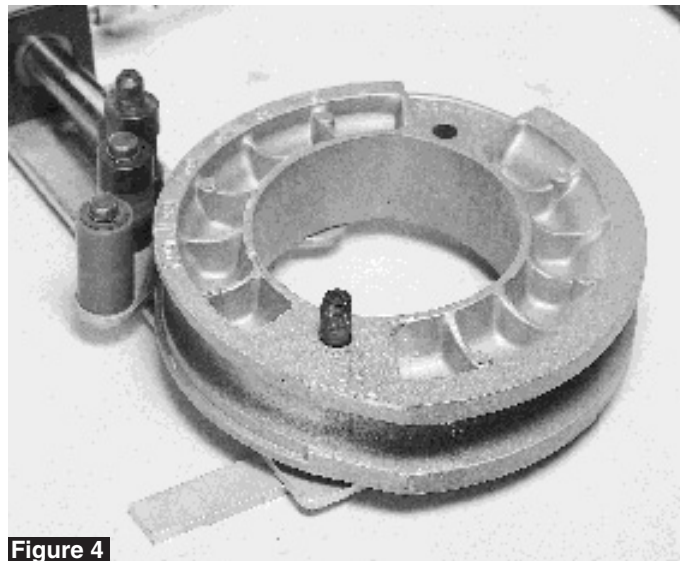

Figure 4
6. Engage the bending shoe over the pivot pin (see Figure 4).